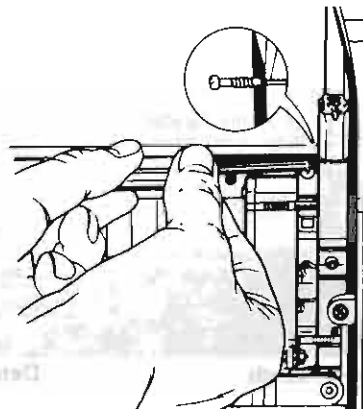

Fig. 2
3. Loosen the cartridge setscrew with the screwdriver (large). (Loosen the screw until it is freed as illustrated.) (Fig. 2)